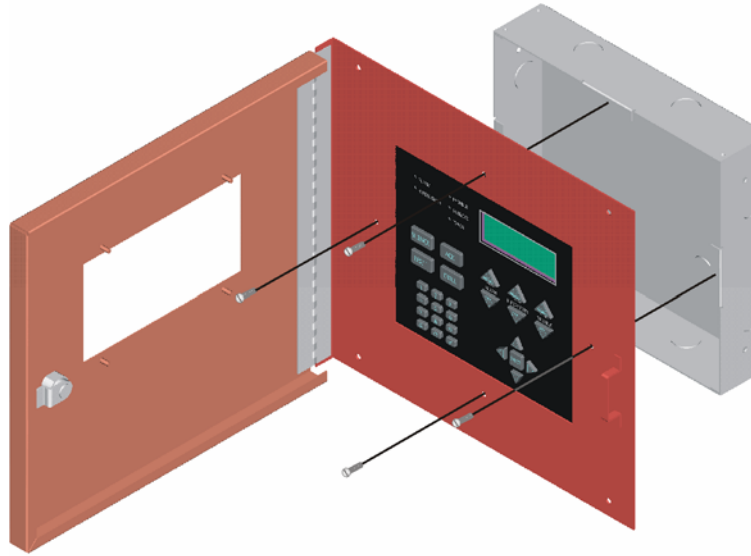

Figure 4-19 Attaching Annunciator/Door Assembly to Backbox
- Attach the annunciator and door assembly to back box as shown in Figure 4-19 using the supplied screws.